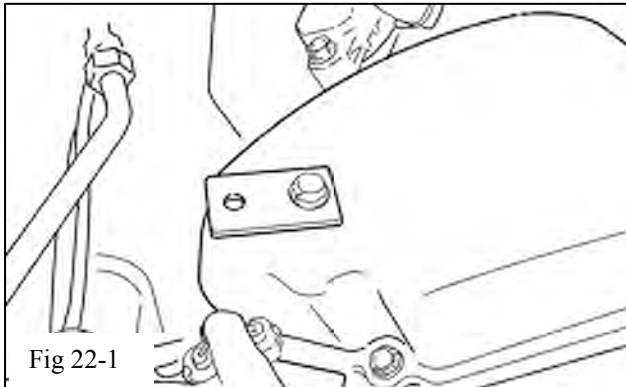

Fig 22-1
- (a) Using a M6x16 bolt (F6), install the air box bracket (F2) to the passenger side cylinder head cover (Fig 22-1) finger tight.